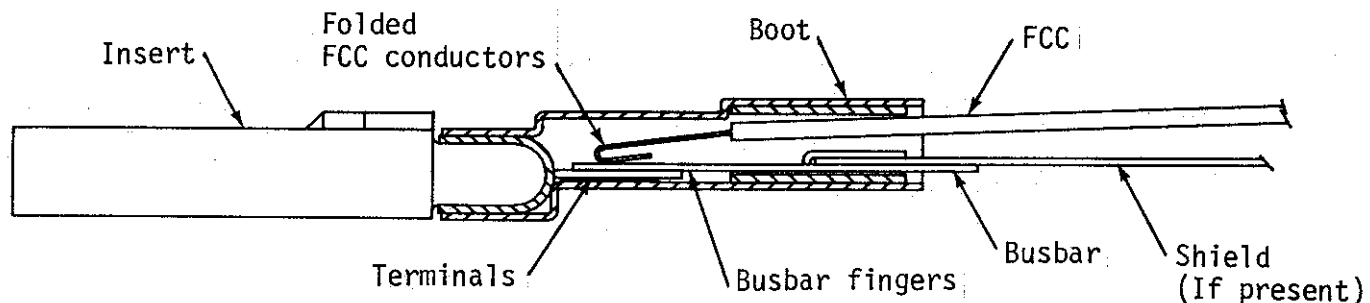

Figure 9. FCC Inserted into Insert Boot
2. Insert the prepared FCC into the insert boot (Figure 9).